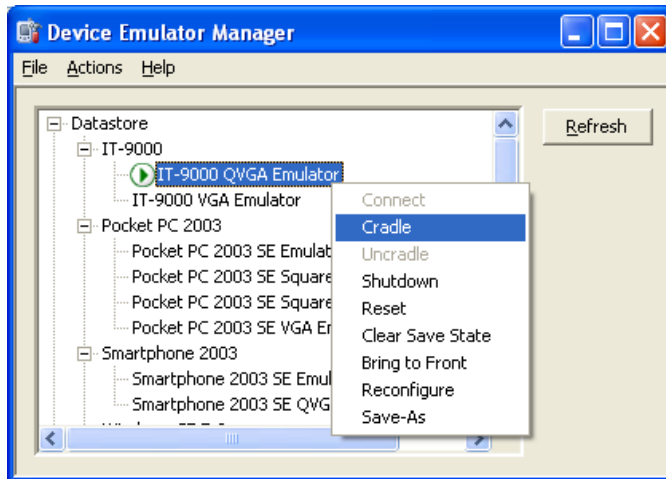

Figure 7.15
4. Start up Visual Studio 2008 or Visual Studio 2005, and then navigate to **Tools** → **Device Emulator Manager**. Right-click the **IT-9000 Emulator** in **Available Emulators** list and then choose **Cradle** in the popup menu. See Figure 7.15.